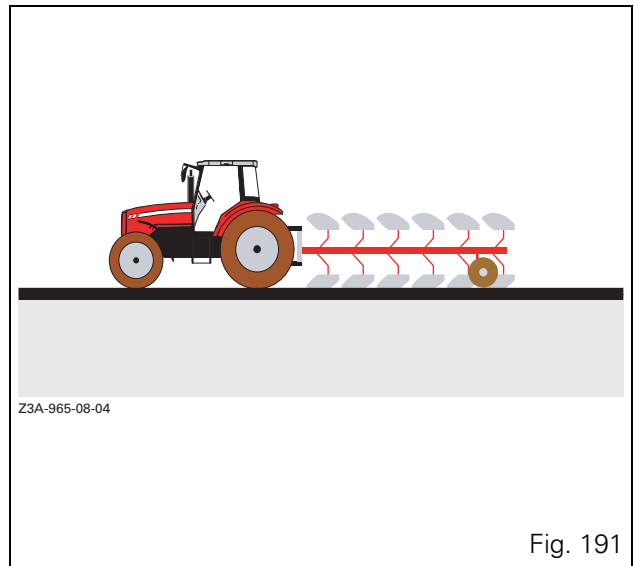

Fig. 191
- Place the linkage and depth wheel in working position (plough horizontal Fig. 191) using the following controls: